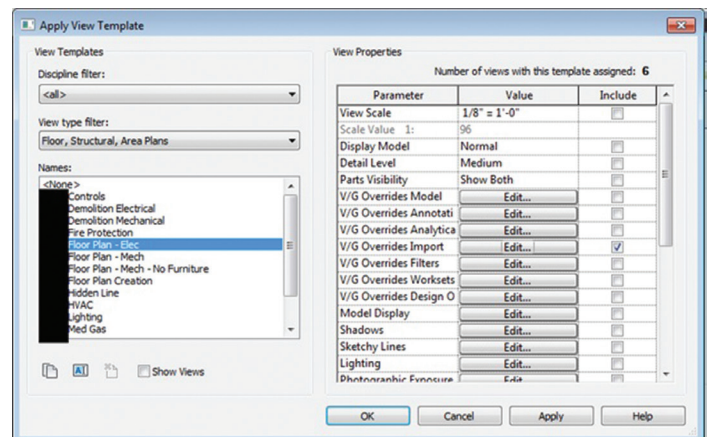

Figure 4
16. Once set, create a view template from the view of the Imported Categories (see Figure 4).